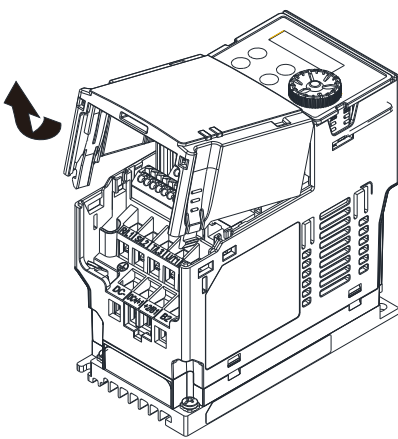

Figure 8-9
1. As shown in the Figure 8-9, switch off the power of the motor drive, and then remove the front cover.